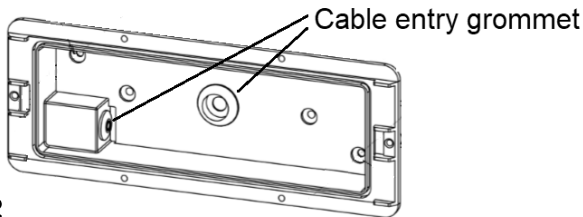

Fig. 2
- Feed the mains cable through the grommet on either the rear or the side of the luminaire housing (see Fig. 2) ensuring a good seal is made to retain the IP rating. The luminaire can be fitted either way up, enabling cable entry on either side
- Feed the mains cable through one of the cable entry grommets in the luminaire housing (see Fig. 2) ensuring a good seal is made to retain the IP rating